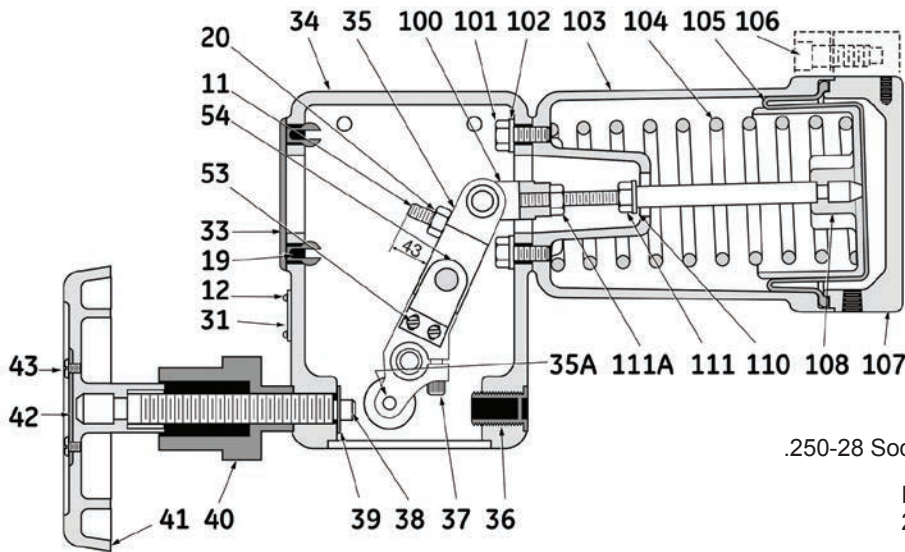

Figure 6
4. Reverse the position of limit stop (11) on lever (35). The limit stop must always be fitted on the opposite side from the clevis (100). It is set to the 43 mm position (see Figure 6).
5. Remove retaining ring (38) and washer (39). Remove handwheel (41), handwheel lock (40) and handwheel thread plug (36). Install handwheel (41) and handwheel lock (40) on opposite side of yoke from actuator. Replace washer (39), retaining ring (38) and handwheel thread plug (36).
6. Connect an air line to the actuator and make a zero adjustment of actuator and lever (35) as outlined under “Actuator Stem Adjustment”.
7. Reconnect air (or electric) lines to the actuator or its accessories). Refit covers (18), (21) and (33).
Actuator Stem Adjustment (Figure 6)
9. If the limit stop (11) has been removed, it must be refitted at the 43 mm setting, then locked using the nut (20) on the opposite side from the clevis (100) (see Figure 6).
10. Couple the clevis and the actuator on the arm (35) as follows: